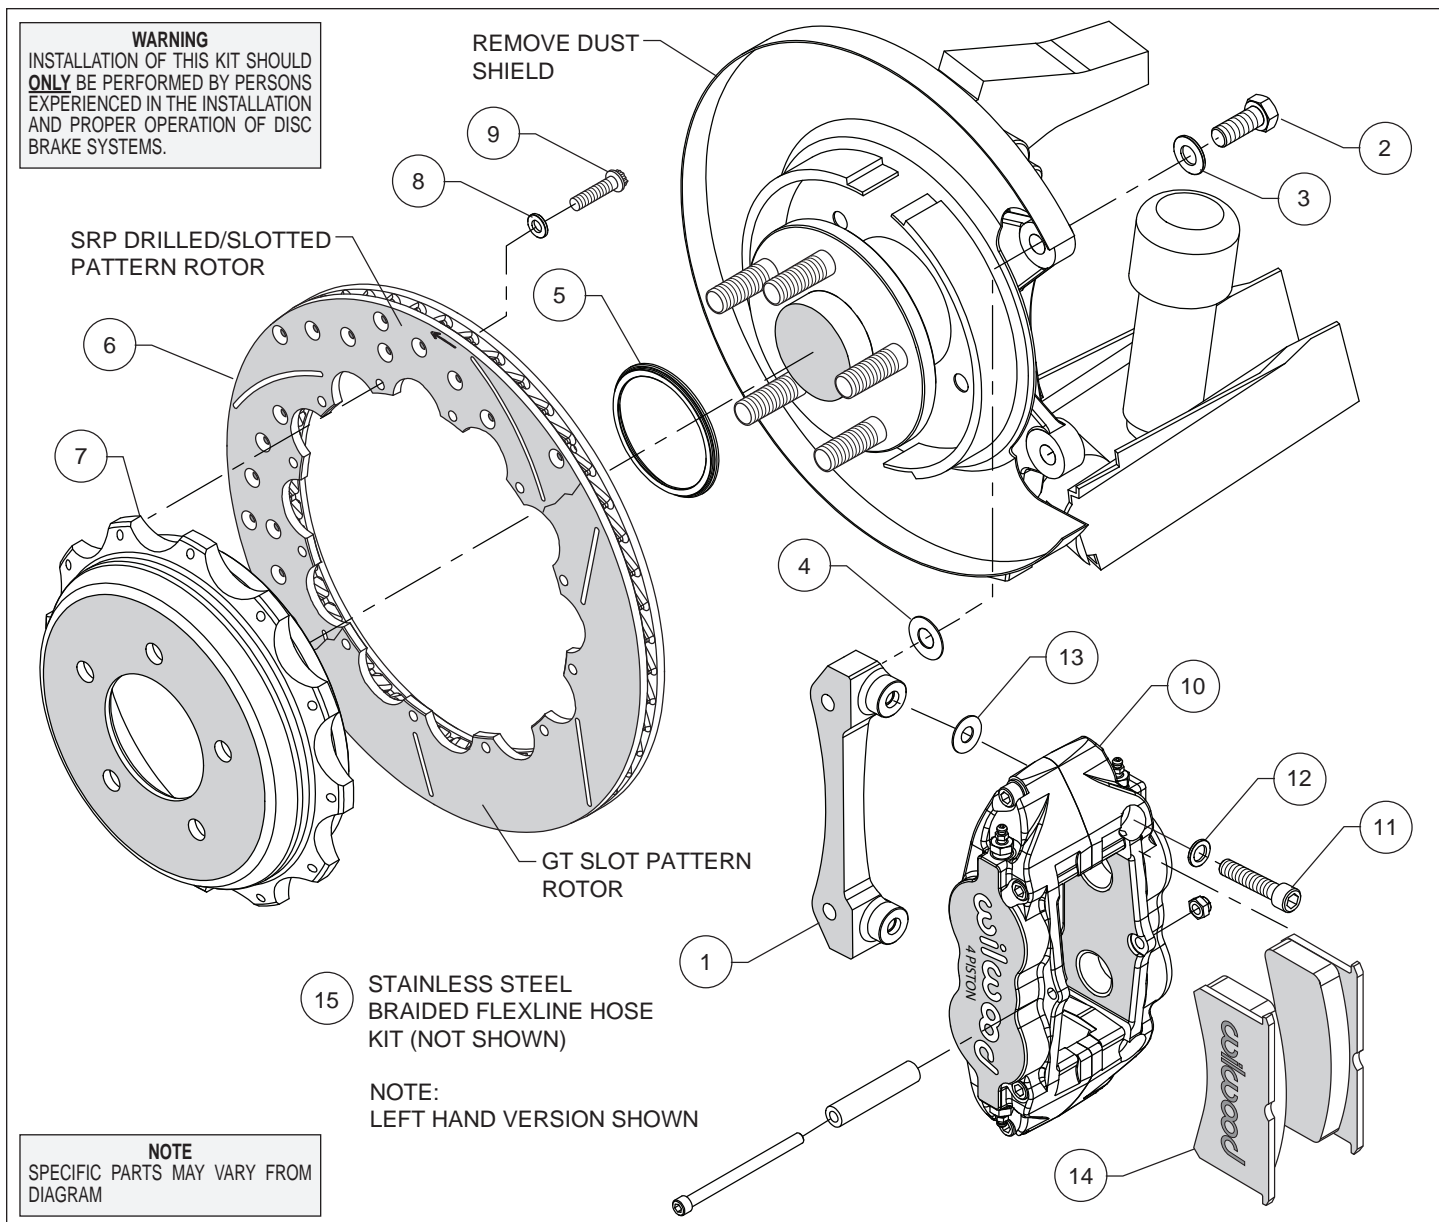
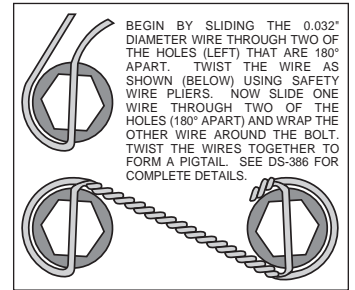

Figure 1. Typical Installation Configuration
Figure 3. Safety Wire Diagram
**Assembly Instructions** (numbers in parenthesis refer to the parts list and Figure 1 on the preceding pages):
- The caliper mount bracket (1) should initially be installed with clean, dry threads on the mounting bolts. Orient the bracket as shown in Figure 1 and Photo 2, and install using washers (3) and bolts (2). Initially place one shim (4) on each bolt between the bracket and upright, Figure 1. Temporarily tighten the mounting bolts. **NOTE:** The bracket must fit squarely against the mount bosses on the upright. Inspect for interference from casting irregularities, machining ridges, burrs, etc. Later, after the caliper alignment has been checked, the mount bolts will be secured using red *Loctite*® 271.
- Orient the rotor (6) and the hat (7) as shown in Figure 1 and Photo 3. Attach rotor to hat using bolts (9) and washers (8). Using an alternating sequence, apply red *Loctite*® 271 to the threads, and torque to 140 in-lbs. For an added measure of security, the bolts may be safety wired using standard 0.032 inch diameter stainless steel safety wire as shown in Figure 3. Please refer to Wilwood's data sheet DS-386 (available at [www.wilwood.com/Pdf/DataSheets/ds386.pdf](http://www.wilwood.com/Pdf/DataSheets/ds386.pdf)) for complete safety wire installation instructions.
- Mount the caliper onto the bracket (1) using bolts (11) and washers (12), Figure 1. Initially place one .035" thick shim (13) on each bolt between the caliper and bracket as shown in Figure 1 and Photo 5. Temporarily tighten the bolts and view the rotor through the top opening of the caliper. The rotor should be centered in the caliper, Photo 6. If not, adjust by adding or subtracting shims (4) between the bracket and the upright. Once the caliper alignment is correct, remove the bracket mounting bolts one at a time, apply red *Loctite*® 271 to the threads, and torque to 60 ft-lb.